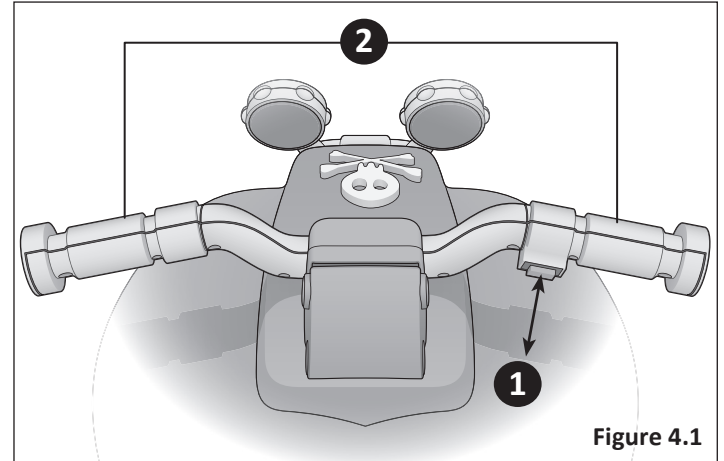

Figure 4.1
- 1 Press the power button to move the quad forward. Release the power button to stop the quad. **Figure 4.1**